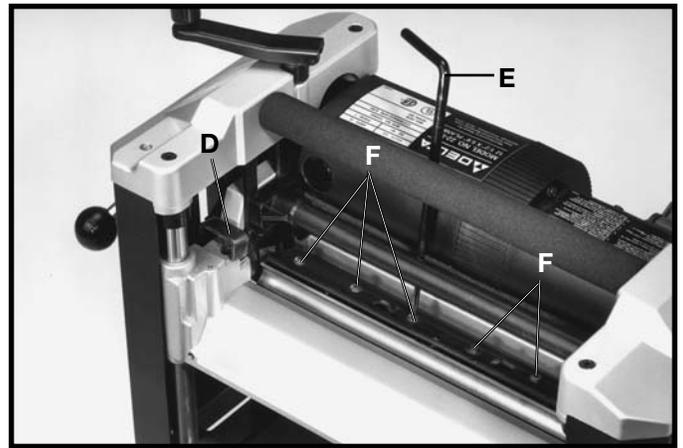

Fig. 33
10. Remove knife transfer tool and tighten the six screws, five of which are shown at (F) Fig. 33, using wrench (E) supplied.